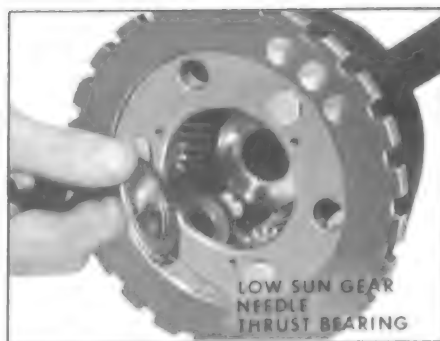

Figure 5-277
8. Install low sun gear needle thrust bearing. See Figure 5-277.